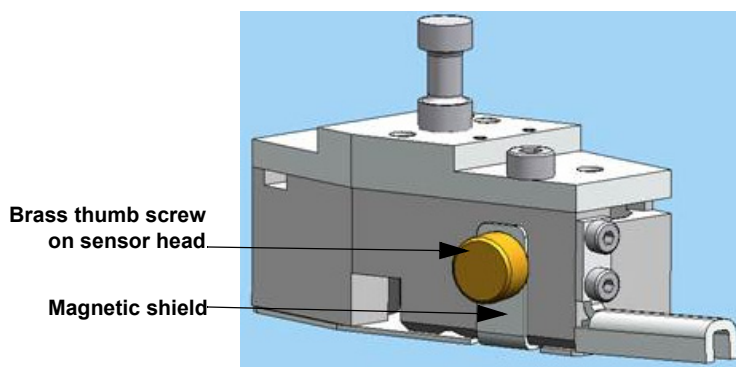

Figure 3-25: Sensor Head with Magnetic Shield Attached
- 11 Turn the brass thumb screw clockwise to attach the magnetic shield as shown in Figure 3-25. Do not tighten the screw—just “snug” it.